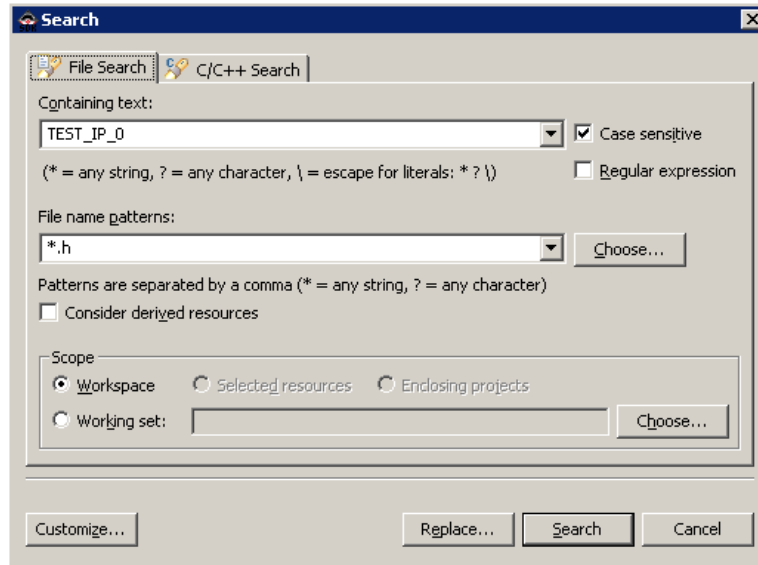

Figure 6-5: File Search Dialog
- b. Double-click `xparameters.h` to open it in the editing window. Search for `TEST_IP_0_BASEADDR`, using the File Search dialog, shown in Figure 6-5..